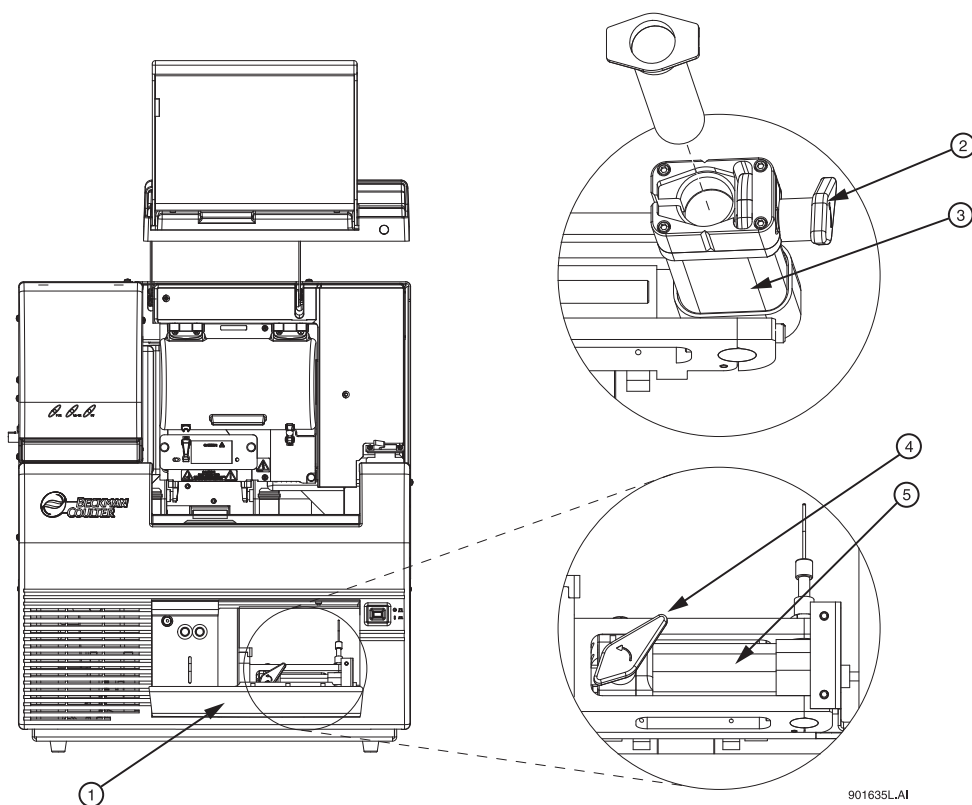

Figure 3.48 Removing/Replacing the Gel Cartridge
2. Open the Gel Pump/Gel Cartridge Access Cover (Figure 3.48) by gently pushing in on the top of the cover. (The cover is spring-loaded and will pop open.)